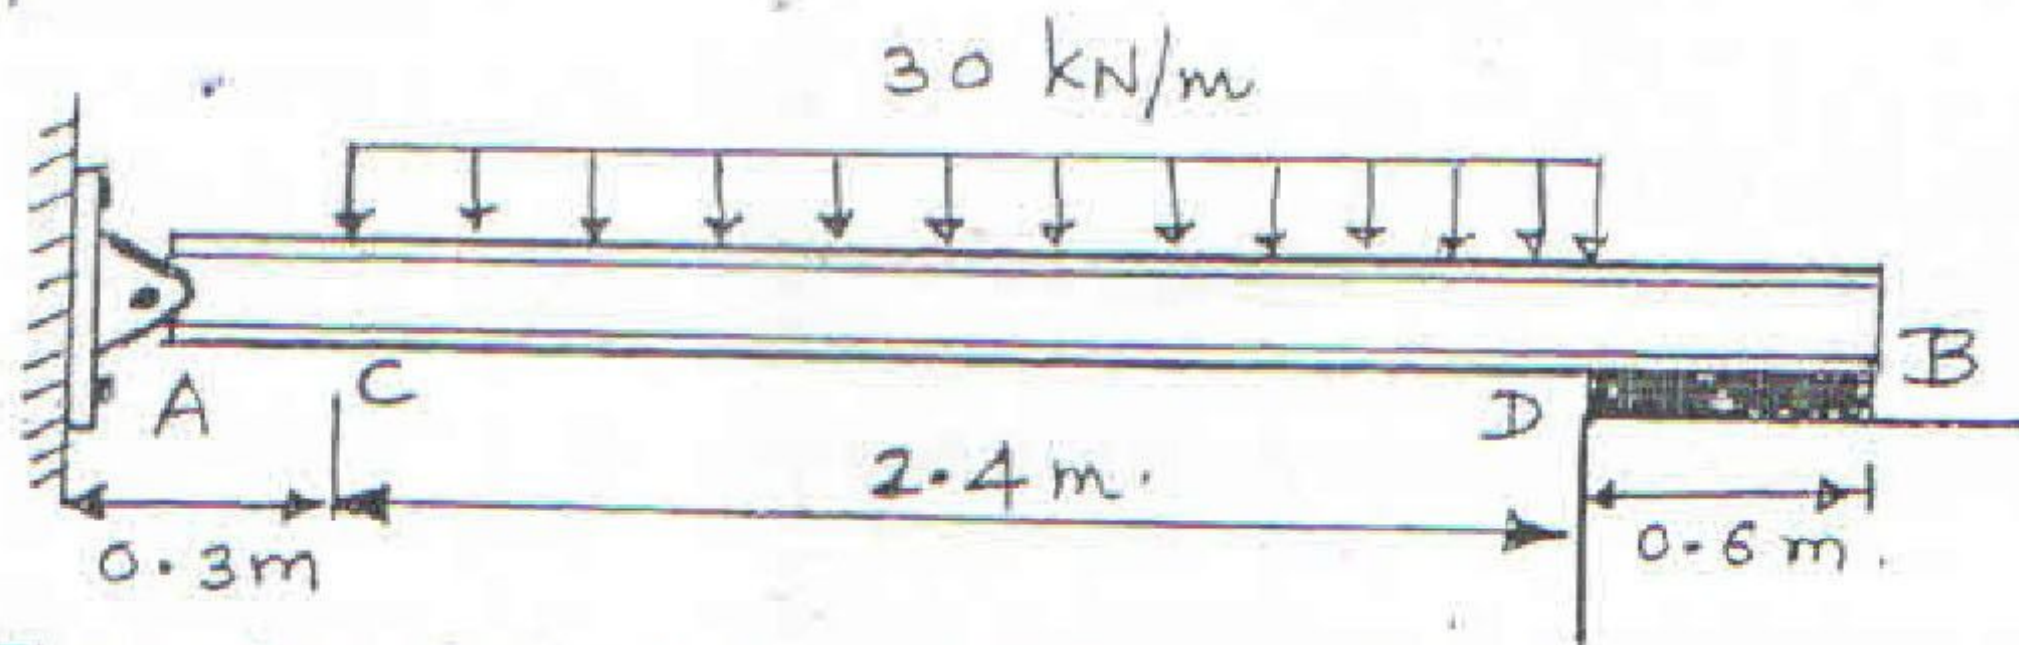

Fig. 2
Q. 2) (a) The beam (fig. 2) is bolted (pinned or hinged) at A & rests on a bearing pad at B that exerts an upward UDL on the beam over its 0.6 m length. Draw the Shear Force Diagram & Bending Moment Diagram for the beam. Show the SF & BM values at all the important points. (08 M)